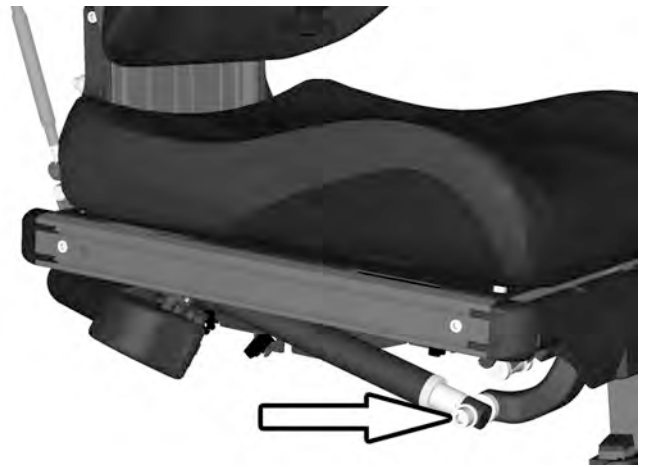

Figure 86. The actuator attachment screw.
6. Refit the actuator to the leg rest, it is attached with one screw and a lock nut. See fig. 86.